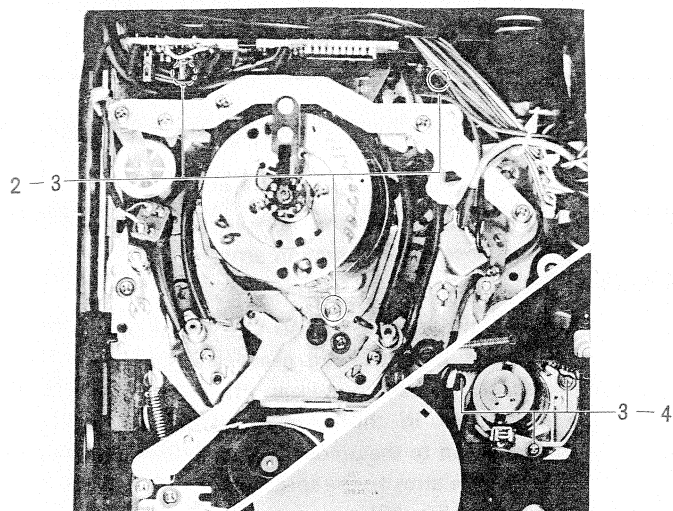

Fig. 18
3. Cylinder/cylinder motor (Fig. 18)